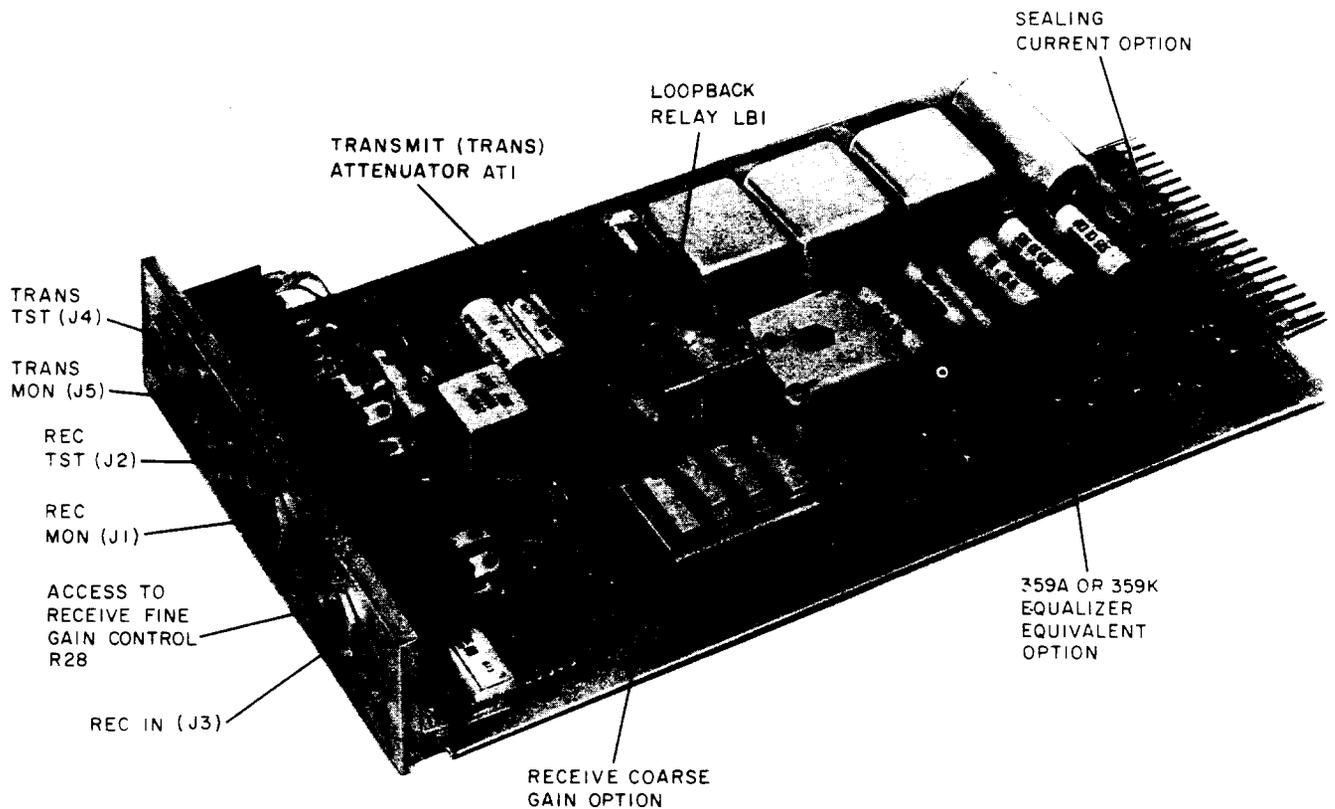

Fig. 4—DAS 829C-L1
2.09 Strapping options in the receive path of the DAS 829C-L1 provide slope equalization equivalent to a 359A or 359K equalizer. Two straps are required to select either the 359A or 359K equalizer equivalent. The 359A equalizer is selected by inserting a pair of straps under the column designated 359 and adjacent to the designation A. The 359K equalizer is selected by inserting a pair of straps under the column designated 359 and adjacent to the designation K. The location of these straps is shown in Fig. 4. Having selected an equalizer, the required equalizer characteristics are provided by installing the straps that are specified on the service order, the circuit layout record card (CLRC) or the work order record document (WORD). The straps should be inserted in positions identified by columns A, B, C, and D and rows designated 1, 2, 3, and 4. Strap storage is